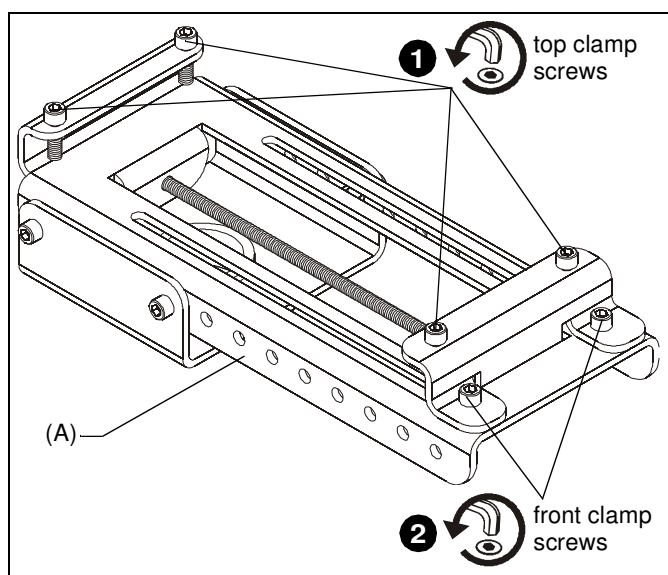

Figure 2
1. Using 1/4" hex key (D), loosen four top clamp screws to allow clamp (A) to slip over I-Beam flanges. (See Figure 2)
2. Using 1/4" hex key (D), loosen two front clamp screws as required to allow sliding bracket to freely move on upper surface of clamp (A). (See Figure 2)